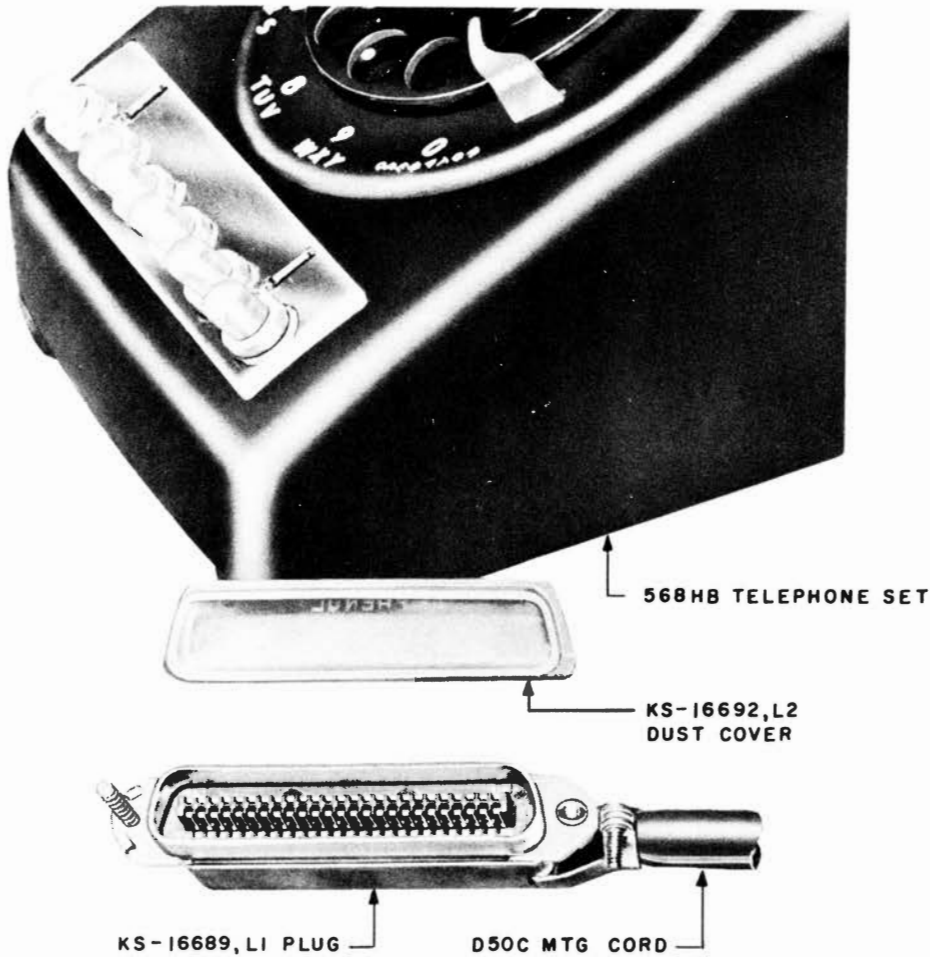

Fig. 6 - 568HB Telephone Set With Plug-Ended Cord
3.10 Fig. 6 shows a 568HB telephone set and mounting cord equipped with a multicontact plug.